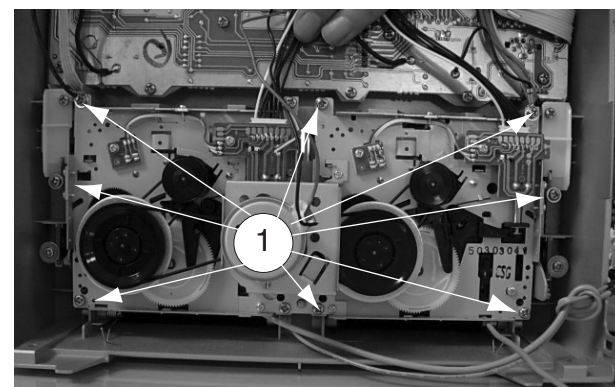

Figure 7
- 3) Loosen 8 screws 'H' to remove the Cassette Module figure 7.